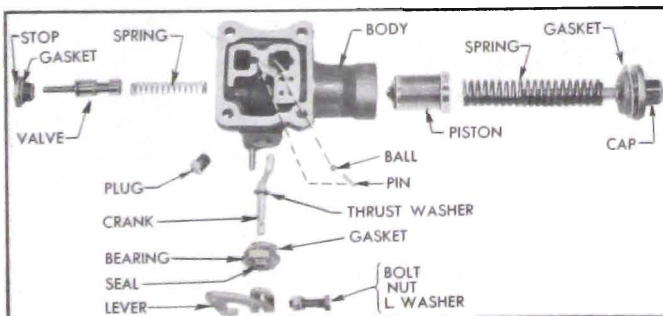

Figure 5-70—High Accumulator—Disassembled
2. Remove the pipe plug, cap, gasket, spring (2 in low) and piston from accumulator body. Keep parts separated so that same parts will be reinstalled in same body. See figure 5-70.
3. *On high accumulator only*, remove clamp bolt, lever, bearing with seal, gasket, thrust washer and control valve crank from accumulator body, then remove valve stop with gasket, control valve and spring. See figure 5-70.
11. *On high accumulator only*, install spring, control valve and stop, then install crank with thrust washer, bearing with new gasket and seal (grooved side inward), operating lever and clamp bolt. See figure 5-70.